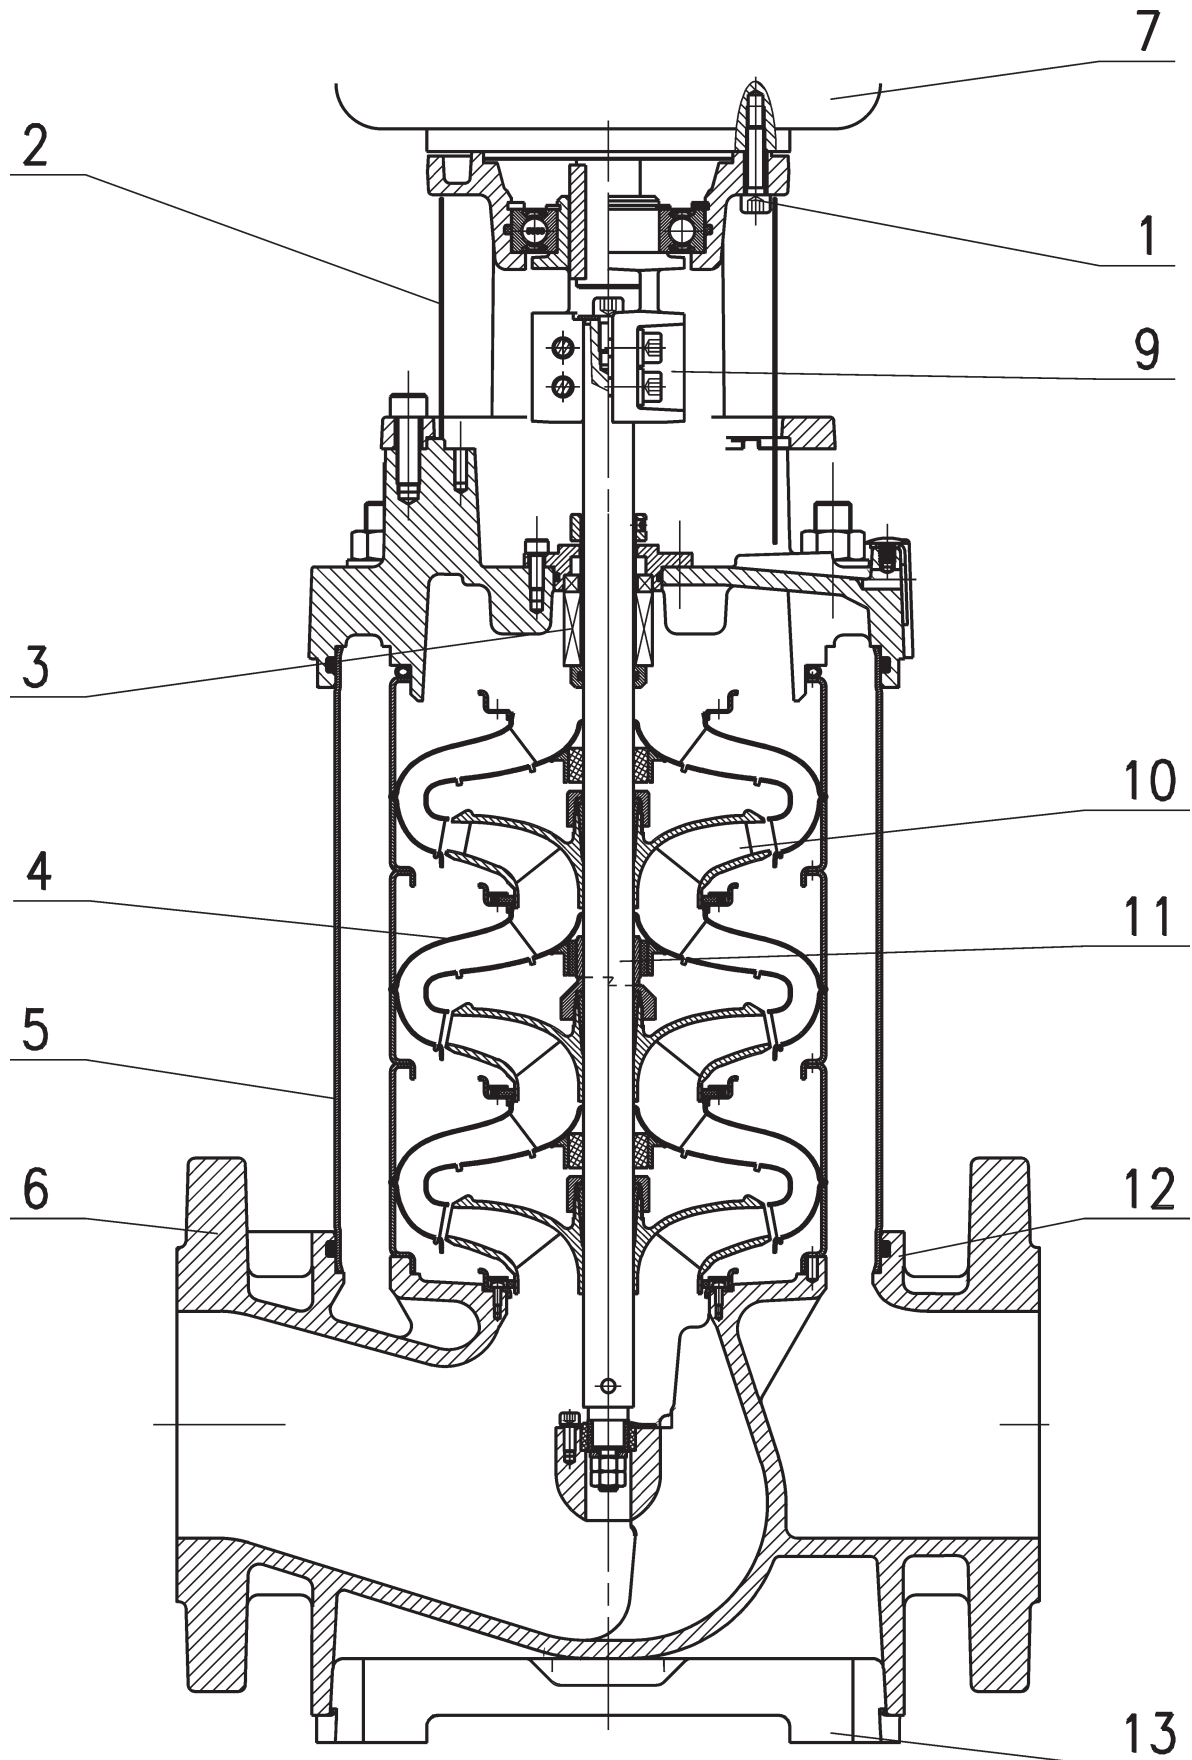

Fig. 2
- Install the pump in an easily accessible place to facilitate inspection and disassembly. Always install the pump exactly perpendicular on a sufficiently heavy concrete base (Fig. 2, 3). Fit a vibration absorber between the base and the floor.